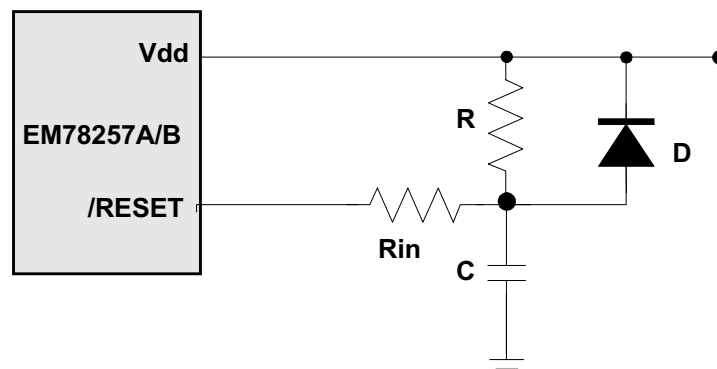

Fig. 18 External Power on Reset Circuit
The circuit shown in Fig.18 implements an external RC to produce the reset pulse. The pulse width (time constant) should be kept long enough for Vdd to reach minimum operation voltage. This circuit is used when the power supply has slow rise time. Because the current leakage from the /RESET pin is about $\pm 5\mu\text{A}$, it is recommended that R should not be greater than 40 K. In this way, the voltage in pin /RESET will be held below 0.2V. The diode (D) acts as a short circuit at the moment of power down. The capacitor C will discharge rapidly and fully. Rin, the current-limited resistor, will prevent high current discharge or ESD (electrostatic discharge) from flowing to pin /RESET.